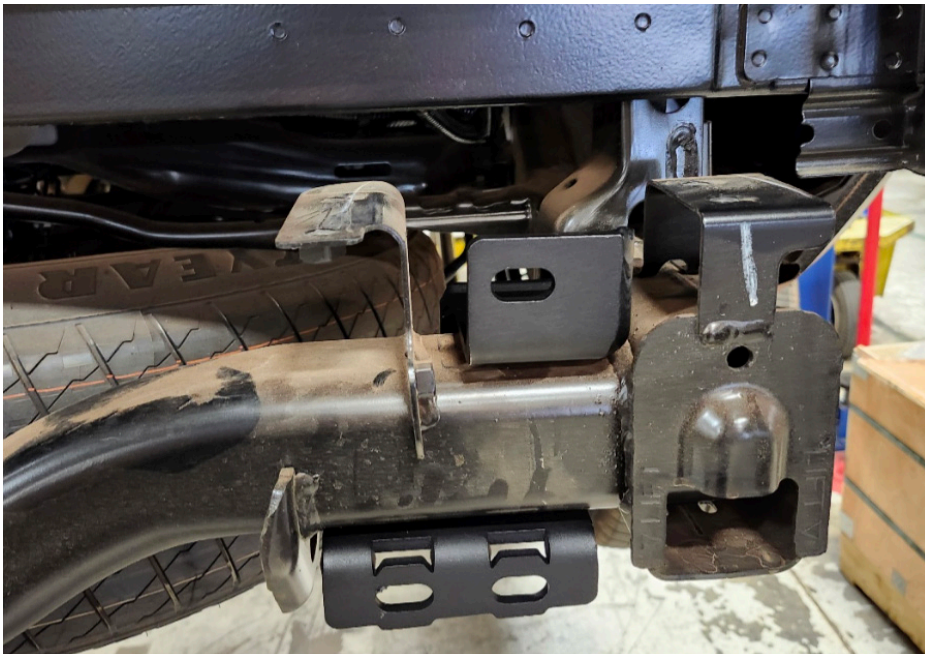

Figure 21
22. Place intermediate brackets [23318 for PS & 23319 for DS] over rear trailer hitch cross bar as shown in (Figure 21)